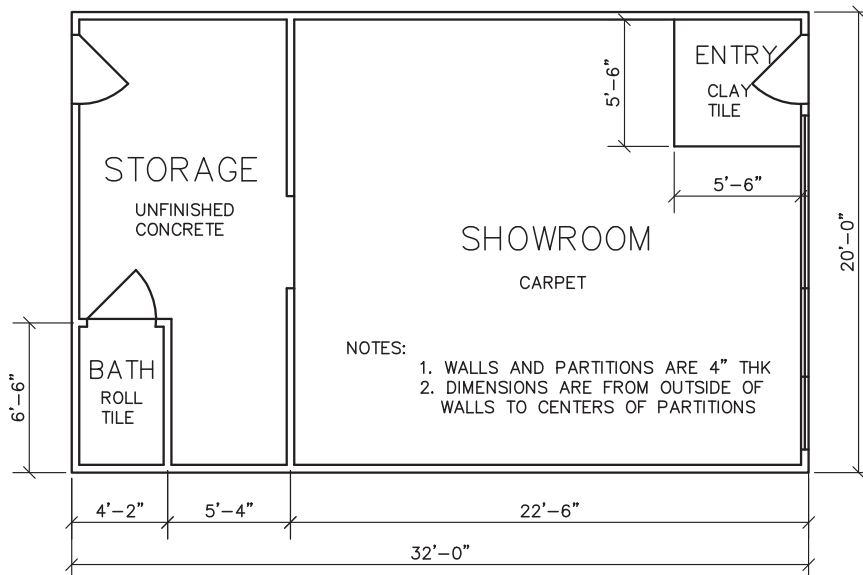

Fig. 31-9
7. Create the floor plan shown in Fig. 31-9 on page 432 according to the dimensions given. Then find the information requested below. This floor plan is also available in the Drafting & Design Problems section of the OLC for this book as **flplan.dwg**.